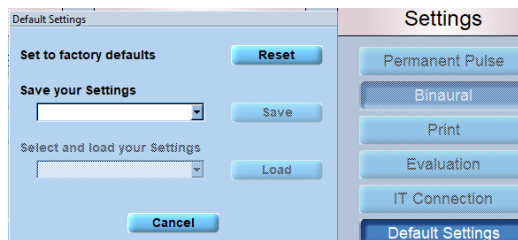

Figure 70
**Default Settings:** following options are available (Figure 70):